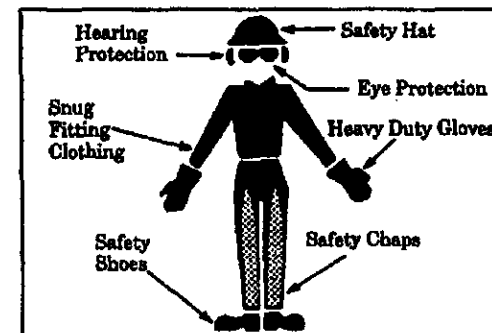

Figure 4
1. Wear protective gear. Figure 4. Always use steel-toed safety footwear with non-slip soles; snug-fitting clothing; heavy-duty, non-slip gloves; safety glasses or similar eye protection such as non-fogging, vented goggles or face screen; an approved safety hard hat; and sound barriers--ear plugs or mufflers to protect your hearing. Do not wear loose clothing or jewelry; they can get caught in moving parts. Wear protective hair covering to contain long hair. Regular users should have hearing checked regularly as chain saw noise can damage hearing.